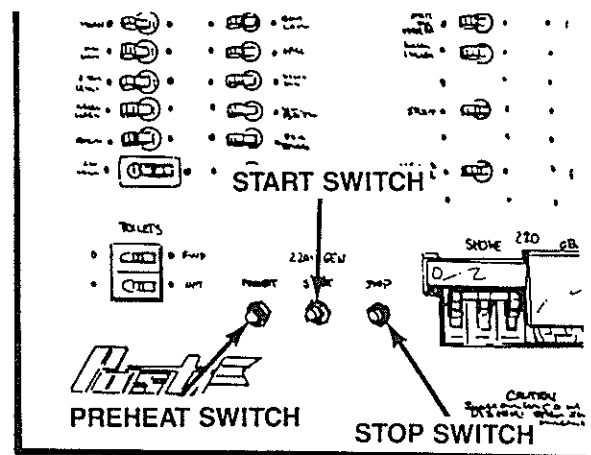

Figure 3-17 Master Control Panel
7. See Figure 3-17. At the Master Control Panel in the main cabin, turn all 120/220V breaker switches off. Set the "SHORE" circuit breakers to OFF. Wait 2 minutes and then slide the cover on the selector switch over the "SHORE" circuit breakers.
8. See Figure 3-17. Set and hold the "PREHEAT" switch to on for 10 to 30 seconds, depending on the outside air temperature (longer during colder temperatures).